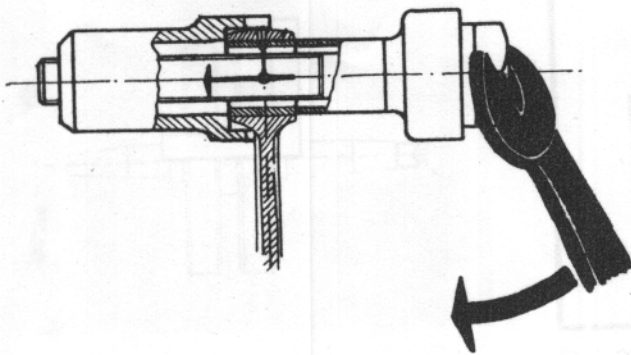

Fig. 23 - Reinstalling the piston pin bushing
- press out the gudgeon pin bush and press it in with the aid of fixture No. 08 (fig. 23). Having pressed the bush in, reream it to the diameter $18^{+0.035}_{+0.025}$